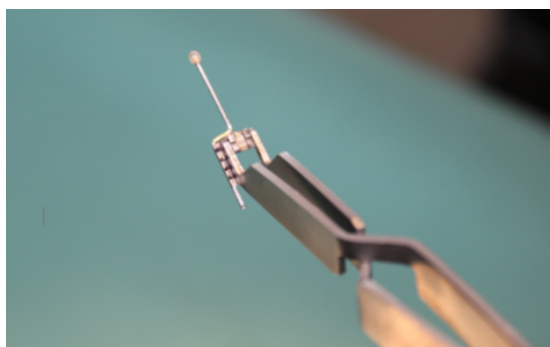

Figure 4: Bracket held with the bracket placement tweezer
6. The bracket to be positioned is held in such a way that the top most marking coincides with the slot of the bracket and the vertical arm of the wire extends up along the centre of the bracket. (Figure 4)